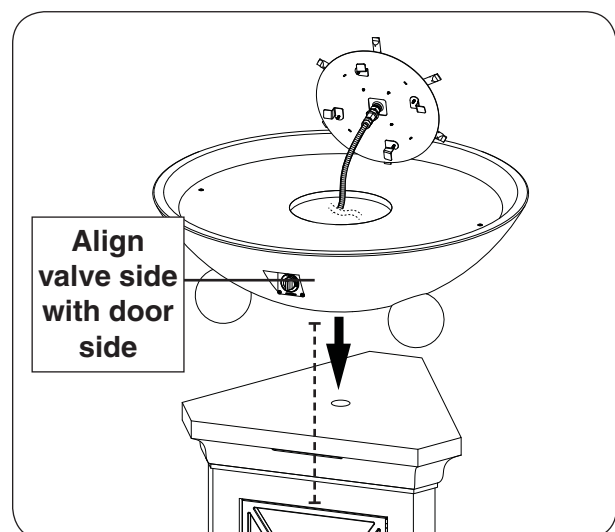

Fig. 26-4 Place bowl
2. **CAREFULLY** place the bowl onto the pedestal (see Fig. 26-4).